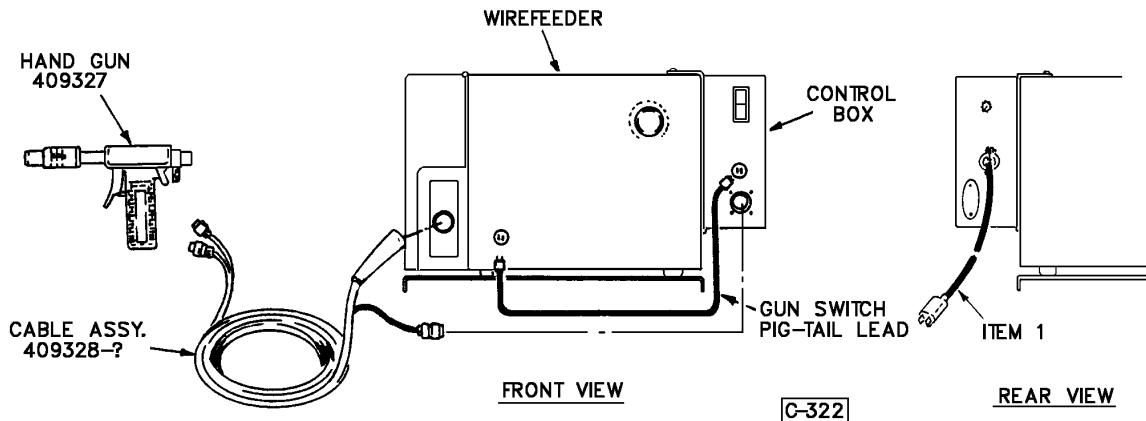

Figure 4-1 Systems Components
Control box requires 115 volts AC to operate. This 115 volts AC is generally supplied by an outlet on the front panel of the power source (welding machine). If 115 volts AC is not available from the power source, any standard grounded 115 volt outlet may be used (Figure 4-1, rear view).
1. The control box is supplied with a 7 foot, 3 wire grounded plug and cable assembly. The green wire in the cable assembly is properly grounded to the control box (Figure 4-1, rear view).
2. The quick connect receptacle of the AG-2000 Assist Gun connects to the gun connection on the wire feeder. The control cable connects to the 4-pin amphenol receptacle labeled "gun" on the front panel of the AG-2000 control box (Figure 4-1, front view).
3. Gun switch cable P/N 376349-3 (supplied with control box) connects the control box receptacle labeled "feeder" to the wire feeder gun switch input receptacle (Figure 4-1, front view).